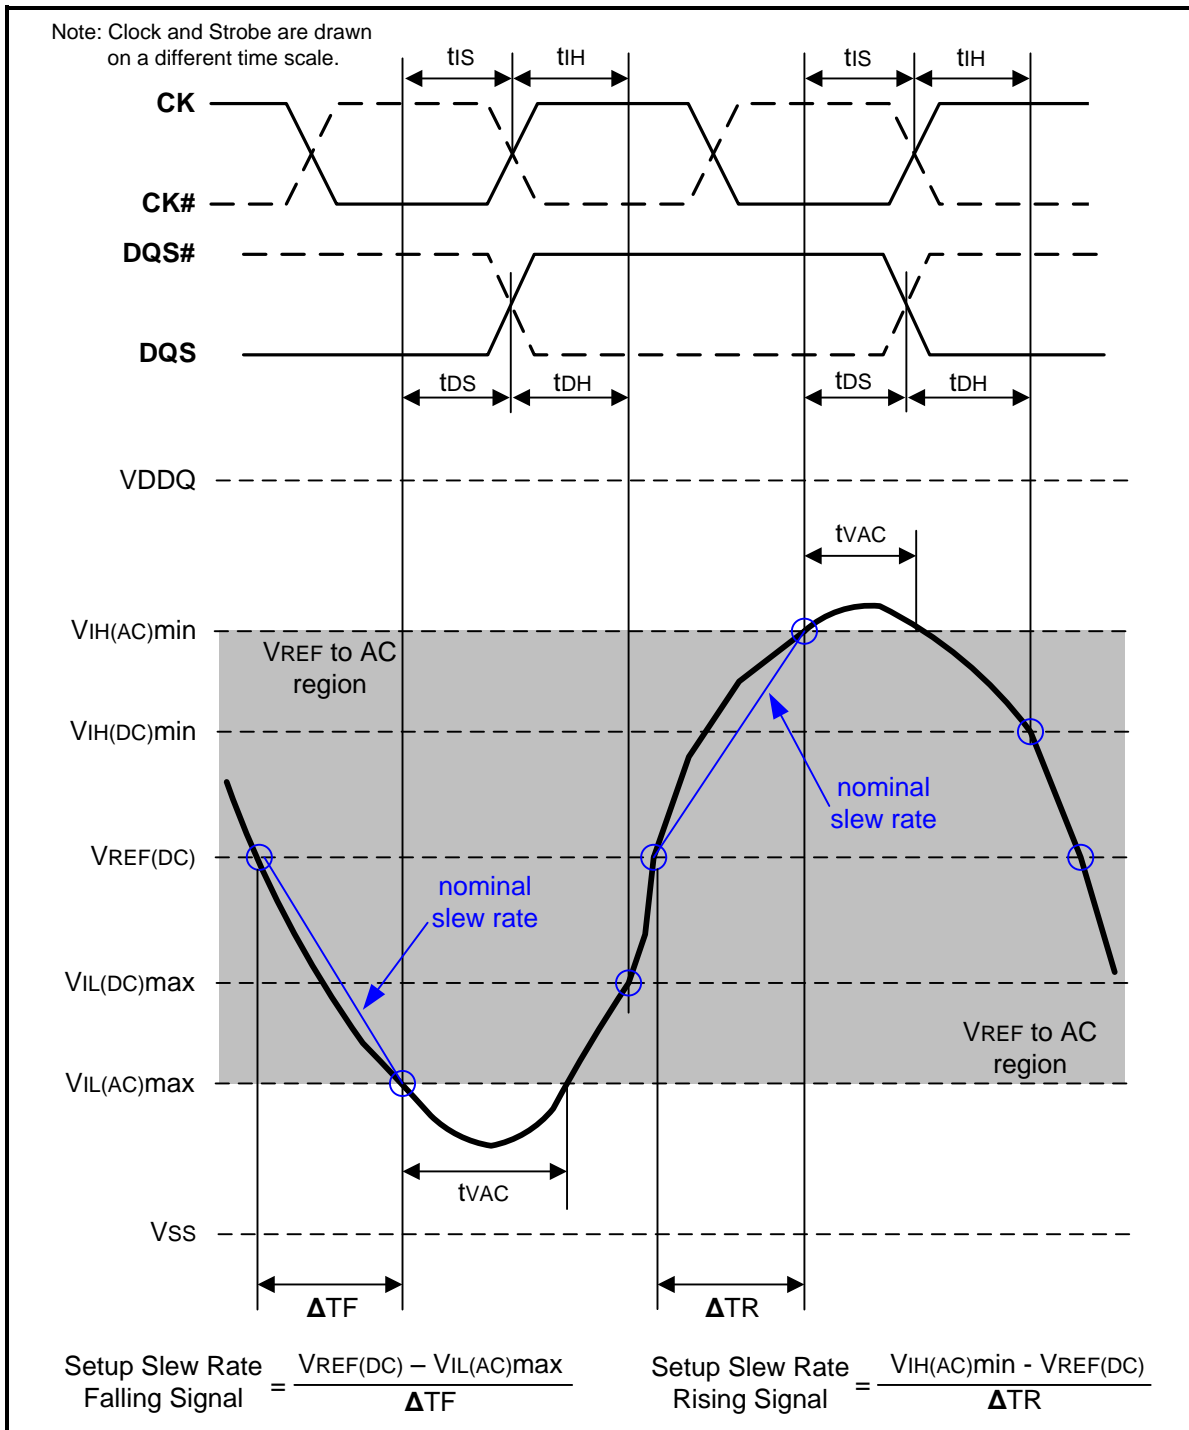
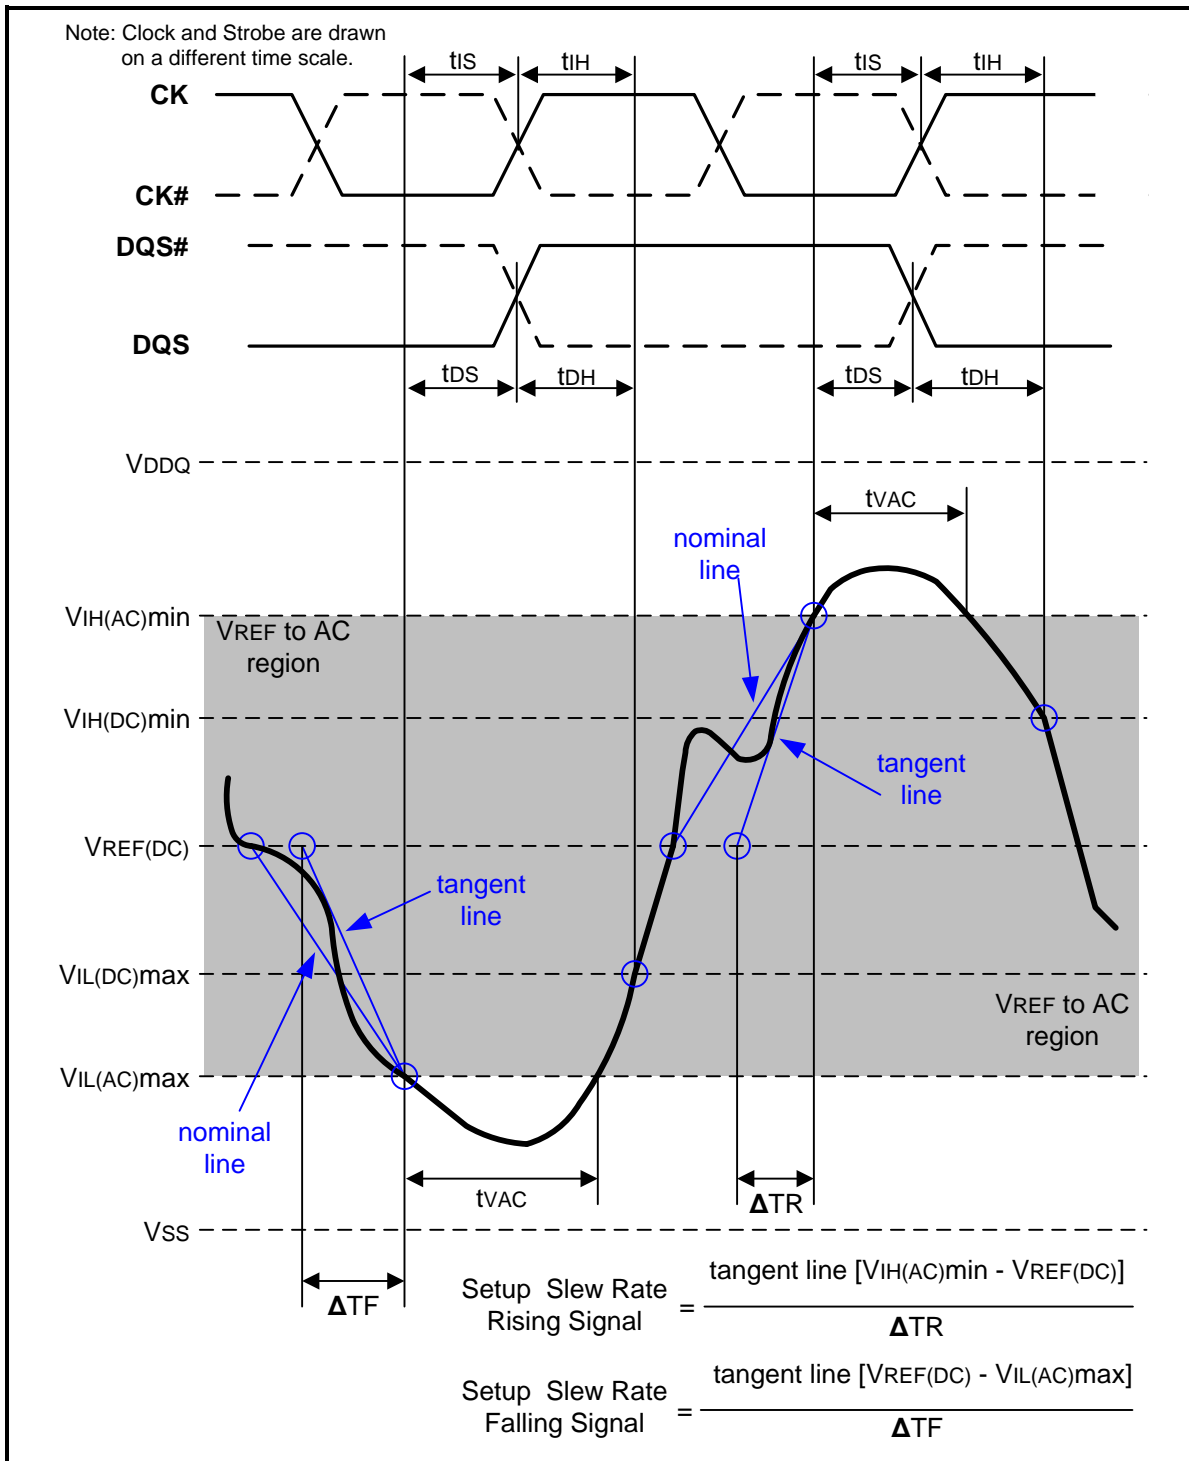

Figure 107 – Illustration of nominal slew rate and tvAC for setup time tDS (for DQ with respect to strobe) and tIS (for ADD/CMD with respect to clock)
Figure 109 – Illustration of tangent line for setup time t_{DS} (for DQ with respect to strobe) and t_{IS} (for ADD/CMD with respect to clock)
Setup (t_{IS}) nominal slew rate for a rising signal is defined as the slew rate between the last crossing of $V_{REF(DC)}$ and the first crossing of $V_{IH(AC)min}$. Setup (t_{IS}) nominal slew rate for a falling signal is defined as the slew rate between the last crossing of $V_{REF(DC)}$ and the first crossing of $V_{IL(AC)max}$. If the actual signal is always earlier than the nominal slew rate line between shaded 'VREF(DC) to AC region', use nominal slew rate for derating value (see Figure 107). If the actual signal is later than the nominal slew rate line anywhere between shaded 'VREF(DC) to AC region', the slew rate of a tangent line to the actual signal from the AC level to DC level is used for derating value (see Figure 109).
Setup (tDS) nominal slew rate for a rising signal is defined as the slew rate between the last crossing of VREF(DC) and the first crossing of VIH(AC)min. Setup (tDS) nominal slew rate for a falling signal is defined as the slew rate between the last crossing of VREF(DC) and the first crossing of VIL(AC)max (see Figure 107). If the actual signal is always earlier than the nominal slew rate line between shaded 'VREF(DC) to AC region', use nominal slew rate for derating value. If the actual signal is later than the nominal slew rate line anywhere between shaded 'VREF(DC) to AC region', the slew rate of a tangent line to the actual signal from the AC level to DC level is used for derating value (see Figure 109).